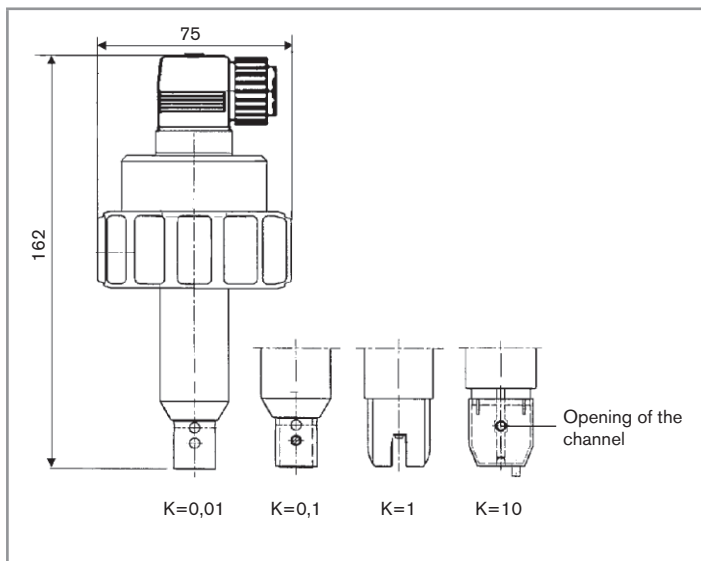

Fig. 2: Dimensions of the device [mm]
- With a cell constant  $K=10$ , point the opening of the channel (see Fig. 2 chap. 6.3) in the direction of the fluid.